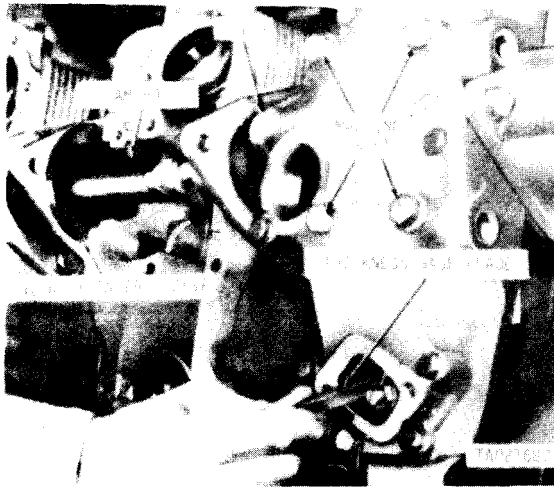

Figure 3-326. Installing valve rocker arm cover and adjusting intake valve clearance (cylinder No. 6R).
c. Rotate the right camshaft (fig. 3-326) until the two lobes (cams) for the intake and exhaust valves for No. 6R cylinder are pointed towards the crankshaft. Remove cover from fuel injector nozzle holder assembly opening in cylinder.
e. Install four new packings with retainers on four bolts (fig. 3-326) and install the four bolts and torque tighten to 275 to 325 pound-inches. Secure rocker cover to cylinder head with two capscrews and flat washers (3, fig. 3-67) seven bolts and flat washers (2) and four bolts and flat washers (1).
g. Using thickness gage blade part number 10882617 (fig. 3-326) set intake valve clearance to 0.100 inch by turning the adjusting screw clockwise to decrease the clearance or counterclockwise to increase the clearance. Check position of valve adjusting screw pad to make sure seat is flat on valve stem.
1. Set cylinder No. 6R intake valve clearance by rotating crankshaft counterclockwise approximately 1/4 turn in order to have No. 6R intake valve rocker arm roller on base circle of camshaft. Set intake valve clearance to final 0.010-inch setting, using thickness gage blade part number 10882615 as shown in figure 3-326. Torque tighten adjusting screw lock nut to 175 pound-inches after adjustment.
j. Install four new packings with retainers on four bolts (fig. 3-326) and install the four bolts and torque tighten to 275 to 325 pound-inches. Secure rocker cover to cylinder head with two capscrews and flat washers (3, fig. 3-67) seven bolts and flat washers (2) and four bolts and flat washers (1). Torque tighten eleven bolts and two capscrews to 100 pound-inches.
k. Using thickness gage blade part number 10882615 as shown in figure 3-326, set intake valve